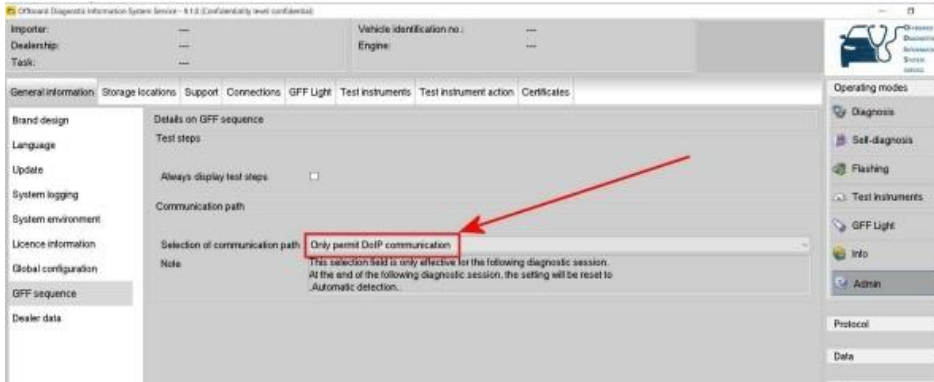

Figure 5
**VERY IMPORTANT: Before conducting the onward instructions / entering the SVM code, the operative MUST recheck the DoIP set up in ODIS and ensure that DoIP is selected (Figure 5) before proceeding**